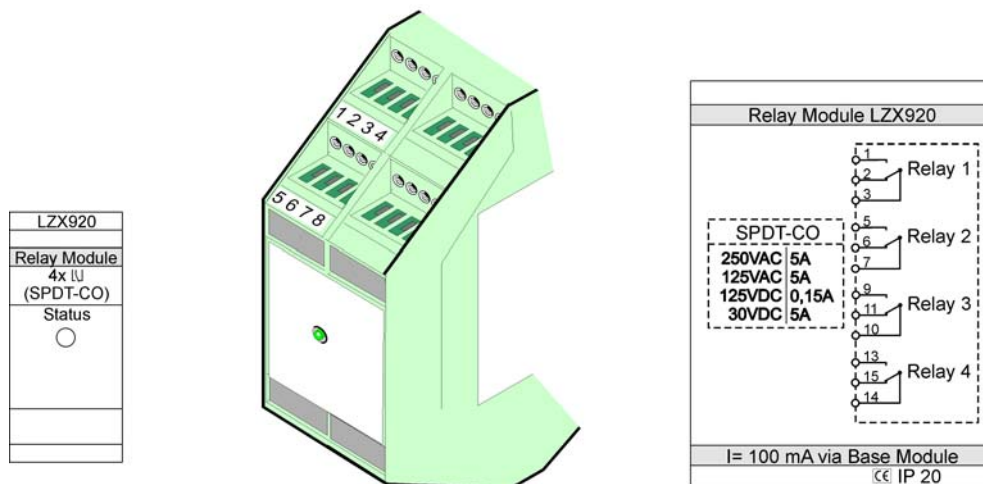

Figure 78 External relay module
3. Make the appropriate connections as shown in Figure 78 and Table 51.